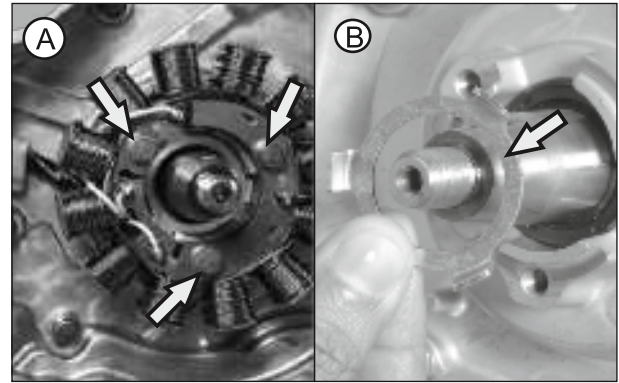

Fig. 3.43
- Loosen and remove 3 nos. hexagonal flange bolt M6X25 from stator assembly.(Fig.3.43)
- Takeout the stator assembly (A). (Fig. 3.43)
- Take out the stopper oil seal (B). (Fig. 3.43)